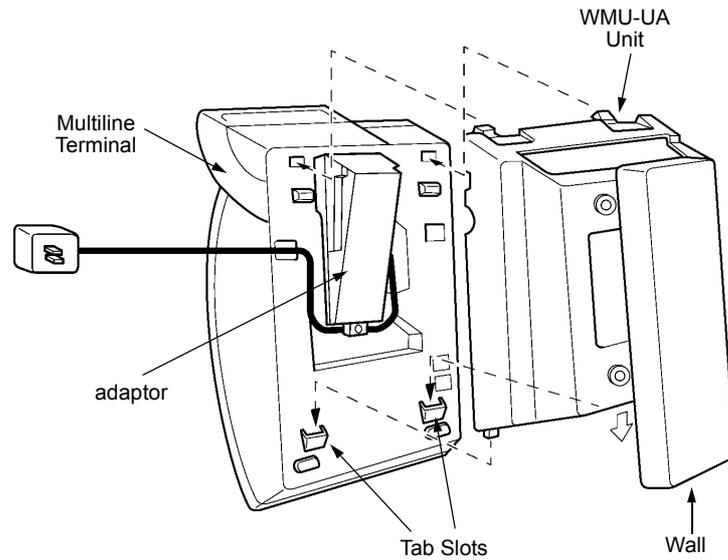

Figure 7-73 Attaching the Multiline Terminal to the WMU-UA Unit
8. With the WMU-UA Unit attached to the wall, hook the two bottom tabs on the WMU-UA Mount Unit into the tab slots on the Multiline Terminal. Then push the two top tabs on the WMU-UA Unit into the tab slots on the Multiline Terminal. If the adaptor has a power supply, lead the AC adaptor cord out through the opening at the bottom of the Multiline Terminal. Refer to *Figure 7-73 Attaching the Multiline Terminal to the WMU-UA Unit*.